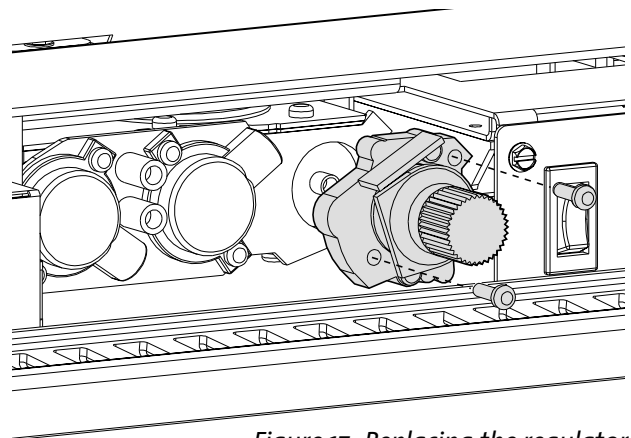

Figure 17. Replacing the regulator.
9. Replace the variable regulator on the gas control valve. See fig. 17.